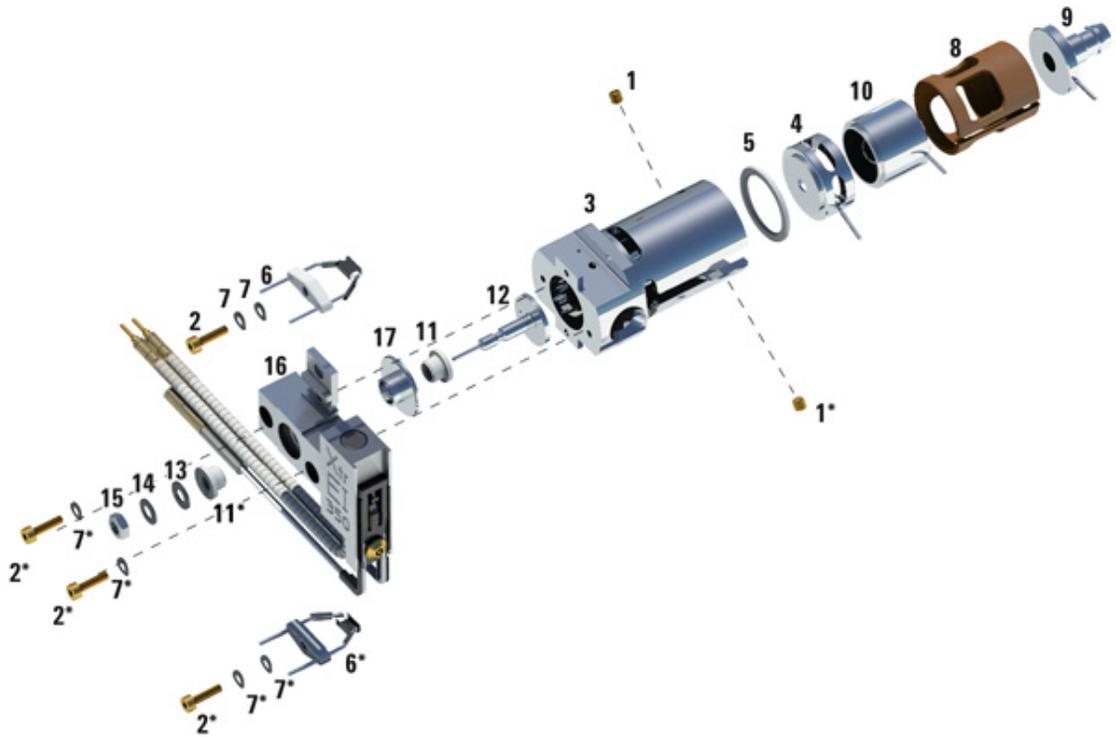

Figure 14 Disassembling the extractor EI ion source
- 2 Remove the filaments by removing the two gold plated screws and separating the filaments from the source. See Figure 14 on page 103.